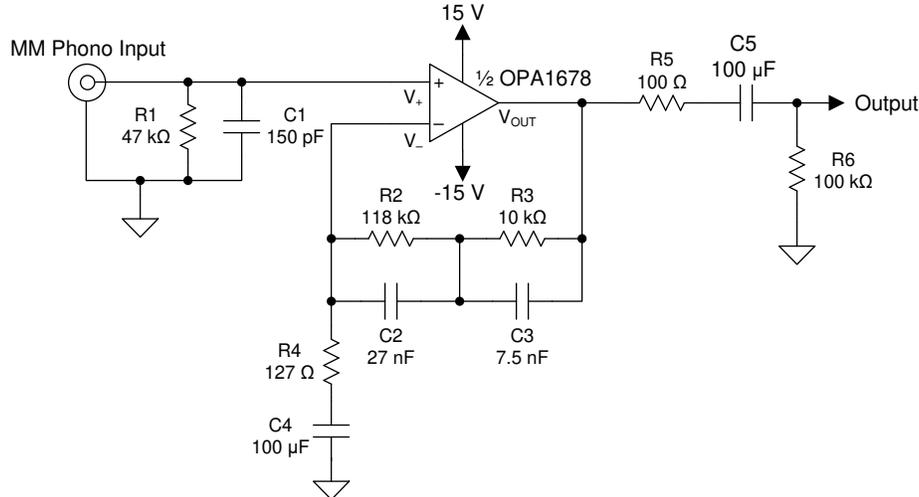

图 8-4. Phono Preampifier for Moving Magnet Cartridges (Single-Channel Shown)
The noise and distortion performance of the OPA167x family of amplifiers is exceptional in applications with high source impedances, which makes these devices a viable choice in preamplifier circuits for moving magnet (MM) phono cartridges. 图 8-4 shows a preamplifier circuit for MM cartridges with 40 dB of gain at 1 kHz.